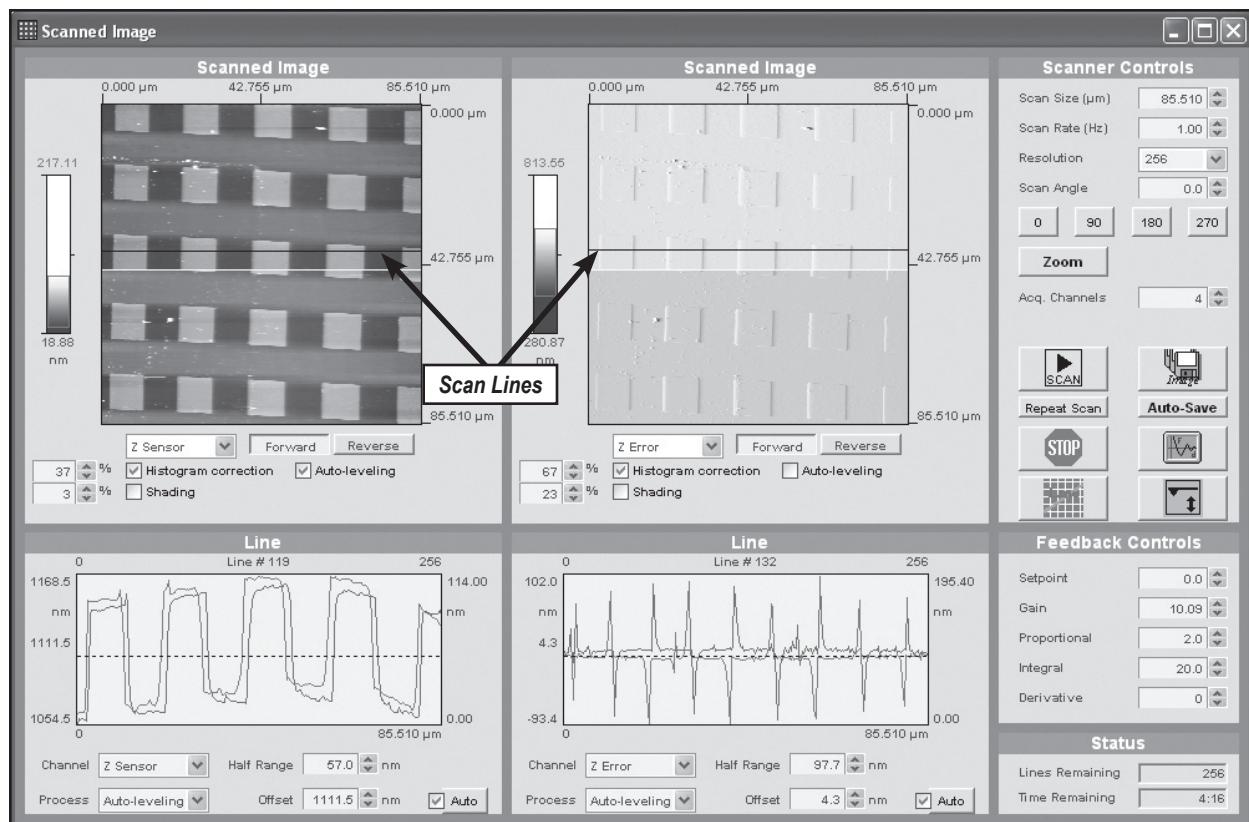

Figure 2.38: Scan in progress
- To view a single line scan, hold down the SHIFT key and left click in either image display to define a horizontal line across the image. Make sure the line includes the square features. The line scan profile for the Z(SEN) channel should resemble the shape and size of the 10µm features. (See line profile in lower left of Figure 2.38.)